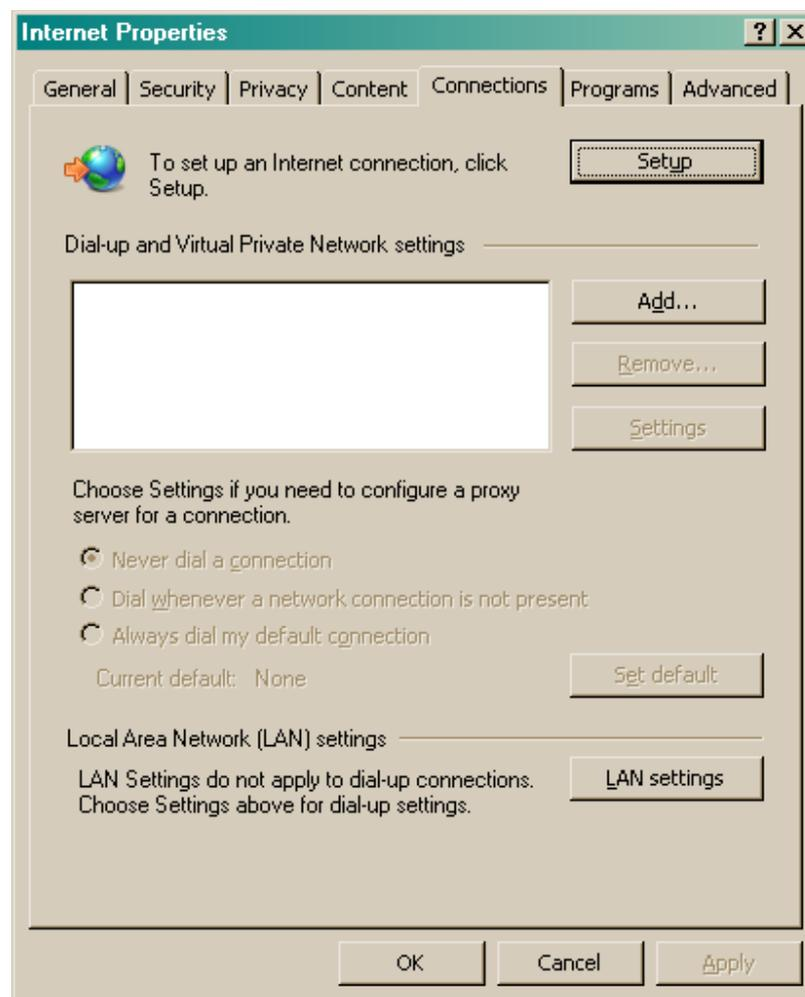

Figure 5-1. Microsoft Internet Properties
6. Click on the “Connections” tab. The window in Figure 5-1 should appear.